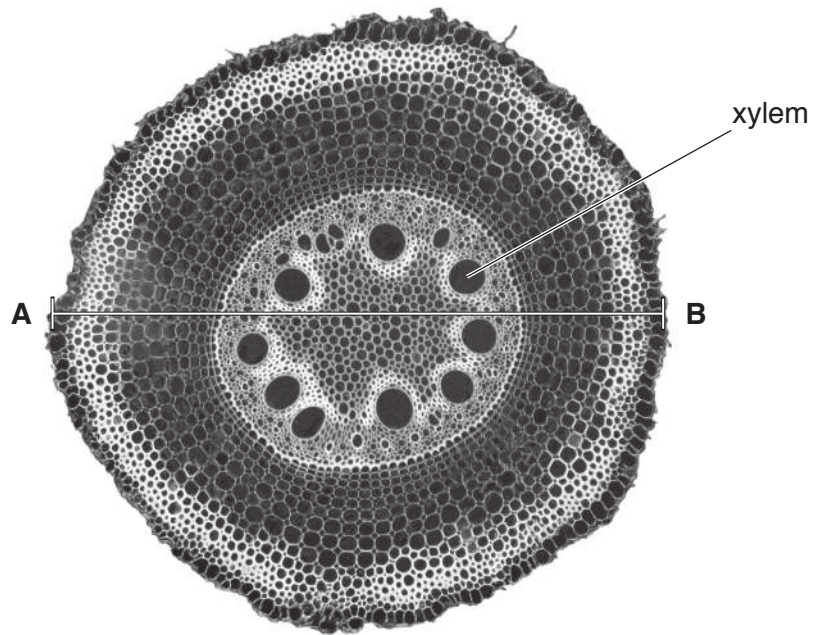
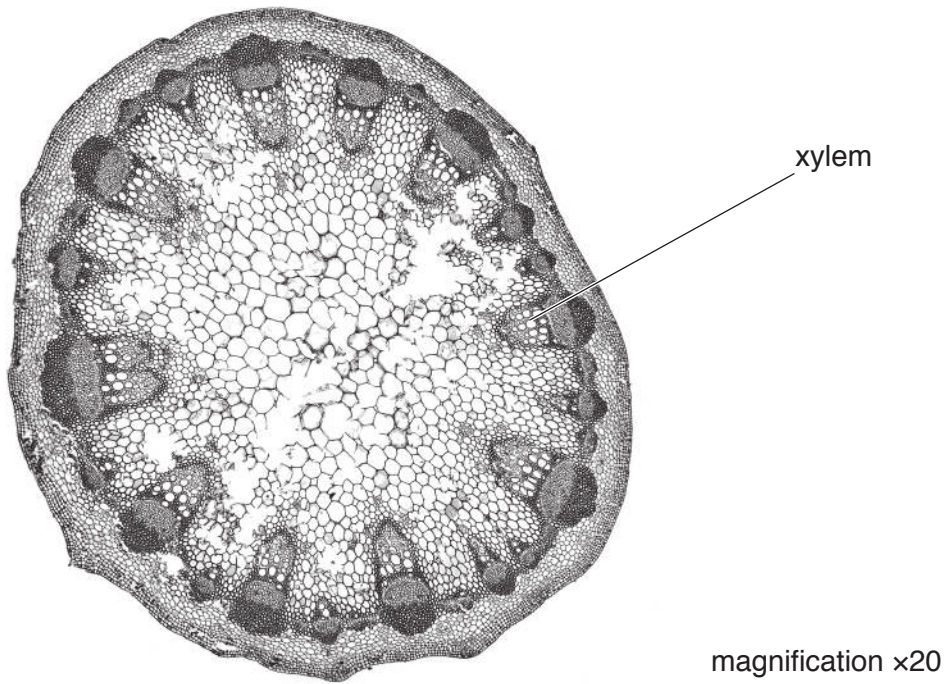

Fig. 2.2
Fig. 2.3
(c) Fig. 2.2 is a photomicrograph of a cross-section of a root.
- (i) Make a large drawing of the cross-section of the root in Fig. 2.2 to show the different areas of the root.
(ii) Measure line **AB** on Fig. 2.2 in millimetres.
The actual diameter of the root shown in Fig. 2.2 is 2 mm.
Calculate the magnification of Fig. 2.2 using the equation.
$$\text{magnification} = \frac{\text{length of line AB on Fig. 2.2}}{\text{actual diameter of the root}}$$
(iii) Fig. 2.3 is a photomicrograph of a cross-section of a stem.
State **two** differences between the root in Fig. 2.2 and the stem in Fig. 2.3.